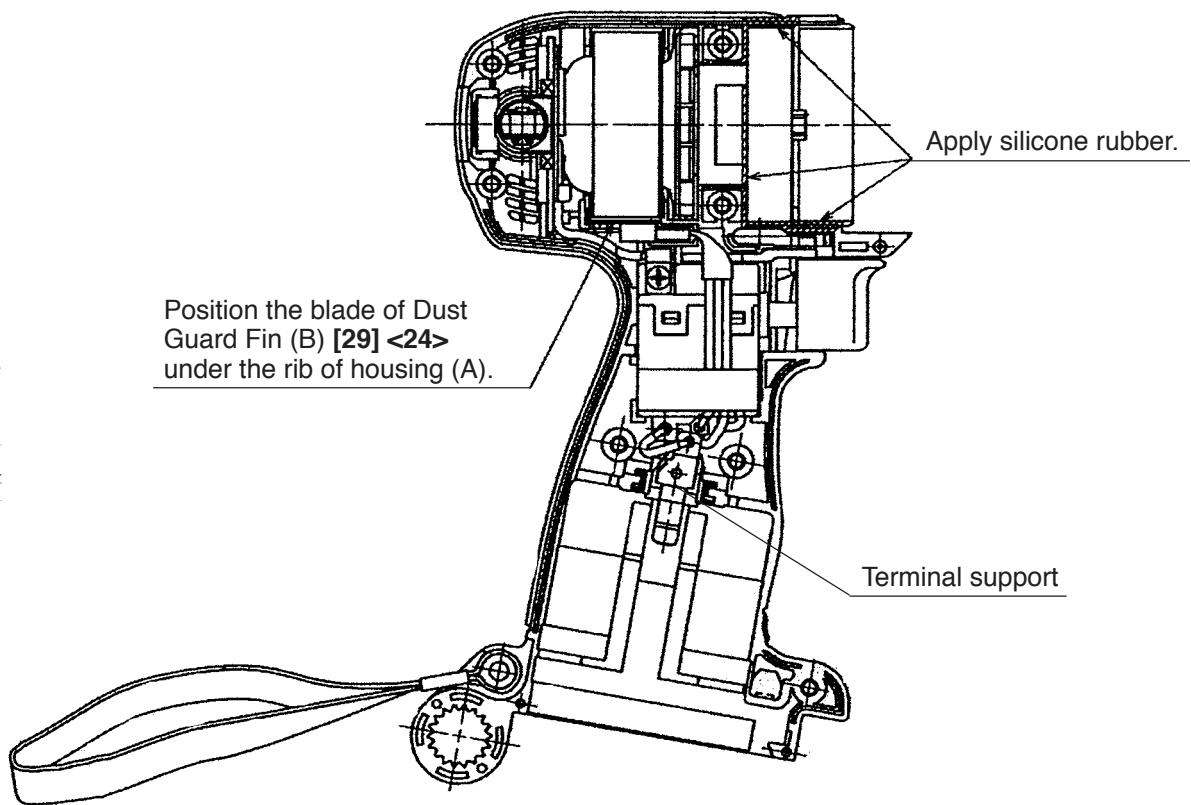

Fig. 17
(d) Mount a unit of Inner Cover (A) [25] <20> (including the Armature Ass'y (W/Ball Bearing) DC 9.6V [26] <21>), Magnet (E) [28] <23> (including Dust Guard Fin (B) [29] <24> and Side Yoke [27] <22>) and Brush Block [30] <25> into housing (A) (see Fig. 17). Pay attention to the following items.
- (e) Mount the DC-Speed Control Switch [37] <32> to housing (A) so that the protrusion of the forward/reverse lever at the top of the switch is inserted into the hole of Pushing Button (A) [38] <33>. Apply silicone grease (KS609, Shin-Etsu Chemical Co., Ltd.) to the contacting surfaces of the FET of the DC-Speed Control Switch [37] <32> and Dust Guard Fin (B) [29] <24> then mount them to housing (A).
- (1) The temperature of the FET can be high if the silicone grease is not applied. Make sure that the three internal wires from the FET are bent as shown in Fig. 17 and passed above the DC-Speed Control Switch [37] <32> to keep from contact with Pushing Button (A) [38] <33> (see Fig. 17).
- (2) If there is no plating and a black oxide is formed on the terminal support where the battery contacts, replace the terminal support with new one (Code No. 323710). Otherwise, heat is generated due to contact failure and the battery or the main body may be faulty.
- (2) Apply silicone rubber (ThreeBond 1211) to housing (A) and Inner Cover (A) [25] <20> as shown in Fig. 17. Mount housing (B) and secure them with seven Tapping Screws (W/Flange) D4 x 20 (Black) [33] <28>. Wipe the silicone rubber coming out of the housing with a cloth. Insert Sleeve (A) [46] <41> into the Strap (Black) [45] <40> and tighten the Machine Screw (W/Washers) M4 x 25 (Black) [47] <42>.